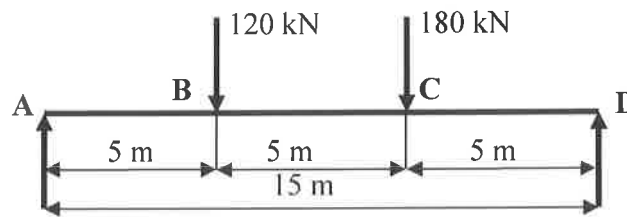

Figure Q7
7. The beam ABCD is simply-supported at A and D and it carries concentrated loads at B and C as shown in Figure Q7. Taking $EI = 320 \text{ MNm}^2$ for the beam, calculate the slope at A and D, and the vertical deflection at B and C. (0.0114 rad; -0.012 rad; 48.2 mm; 49.5 mm)